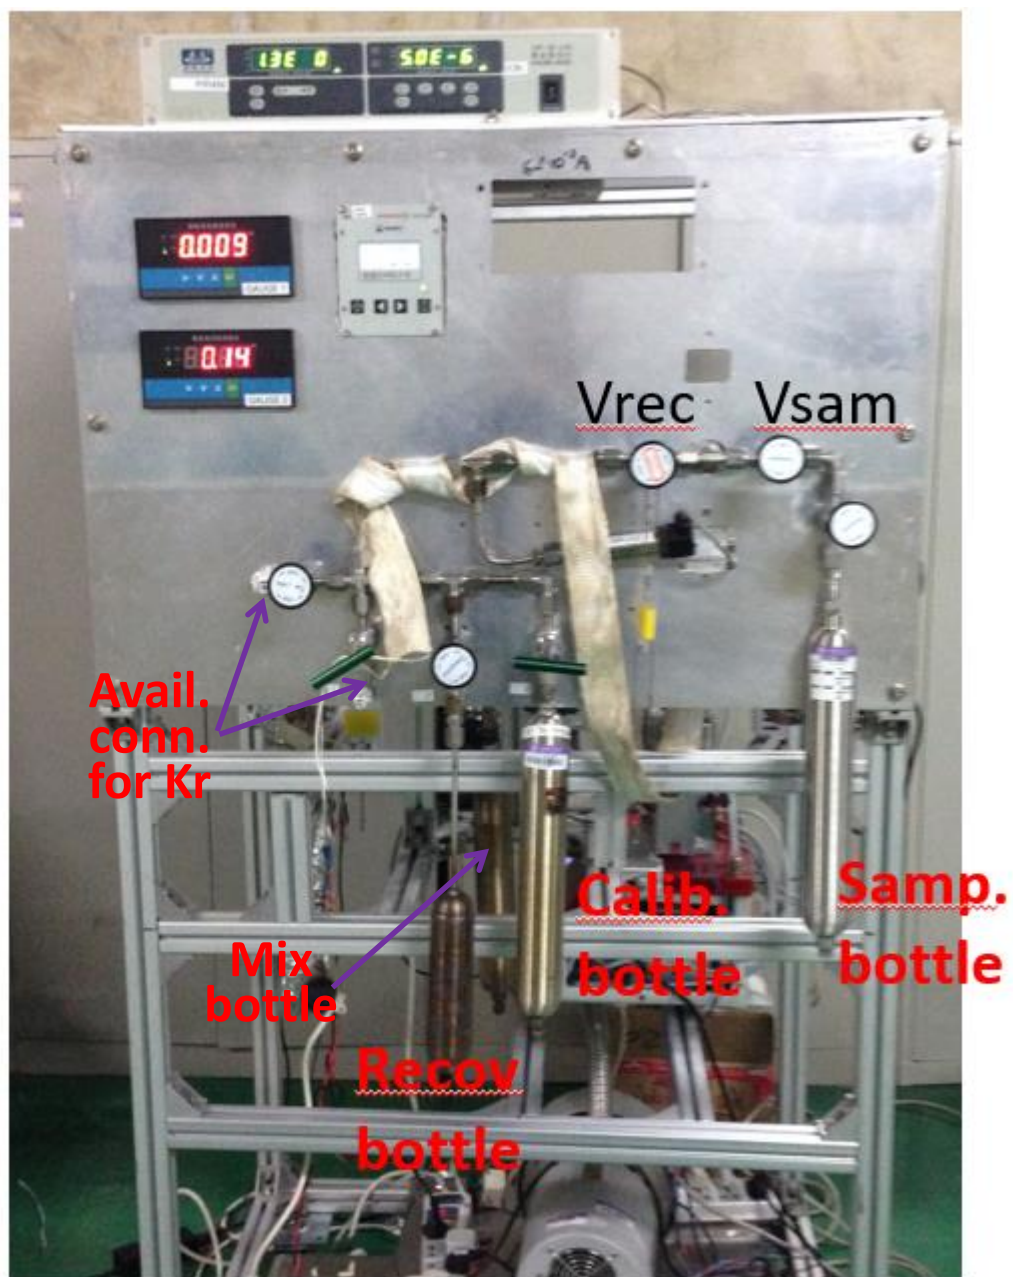

Fig. 2 Front panel with marked bottles and available hook-ups for the Kr bottle
1. Initially the system should be under high vacuum, so check the various gauge pressures. The front panel has several displays, shown in the left Fig. 2 of Ref (1). The normal pressures displayed in the vacuum state are clearly visible. If any of these pressures is significantly higher, find out why. If a filled bottle has its valve not fully closed, you probably lost a large fraction of its content. Other 2 pressures to check are behind the front panel, on the Lesker ion gauge (see Fig. 2 of (1), right side), and on the red HiCube pumping station. If the station's display shows something else (e.g., the rotation speed), browse through the parameters until you find the pressure. Note that the unit on the pump display is hPa, not Pa. The Lesker gauge and the pump should read similar pressures (within a factor of 2, after conversion to the same unit).
3. Connect a pure Kr bottle to one of the normally free swagelok connectors on the Vrec side of the front panel (see Fig. 2) and a sample bottle containing Xe with impurity concentration known to be at least 10x lower than the mixture you want to make.
- a) if it is recorded as filled with a known mixture and the valve is closed, then it is a calibration bottle. If the composition is already what you want you don't need to make a new mixture, Just move this bottle to the front panel (see Fig. 2 for position). Otherwise
11. Replace the mixture bottle with an empty bottle. This is your new mixture bottle, while the old one is now a calibration bottle. Connect the latter to the front panel, in the place shown in Fig. 2.